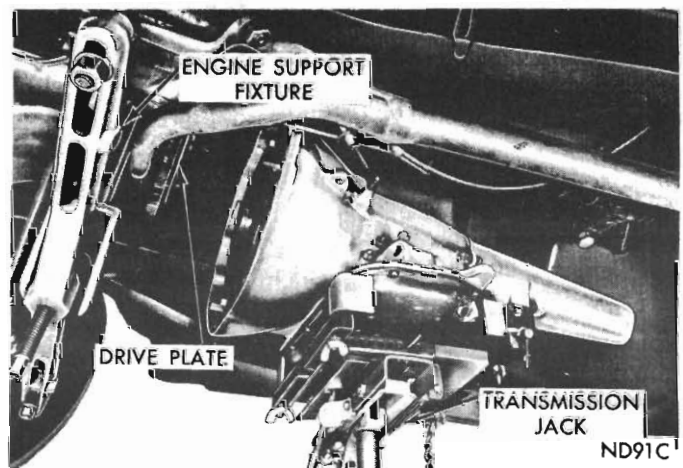

Fig. 44 - Engine support fixture
(12) Disconnect oil cooler lines at transmission and remove oil filler tube. Disconnect the speedometer cable.
(13) Mark parts for reassembly then disconnect propeller shaft at rear universal joint. Carefully pull shaft assembly out of the extension housing.
(14) Remove rear mount to extension housing bolts.
(15) Install engine support fixture, and raise the engine slightly (Fig. 44).